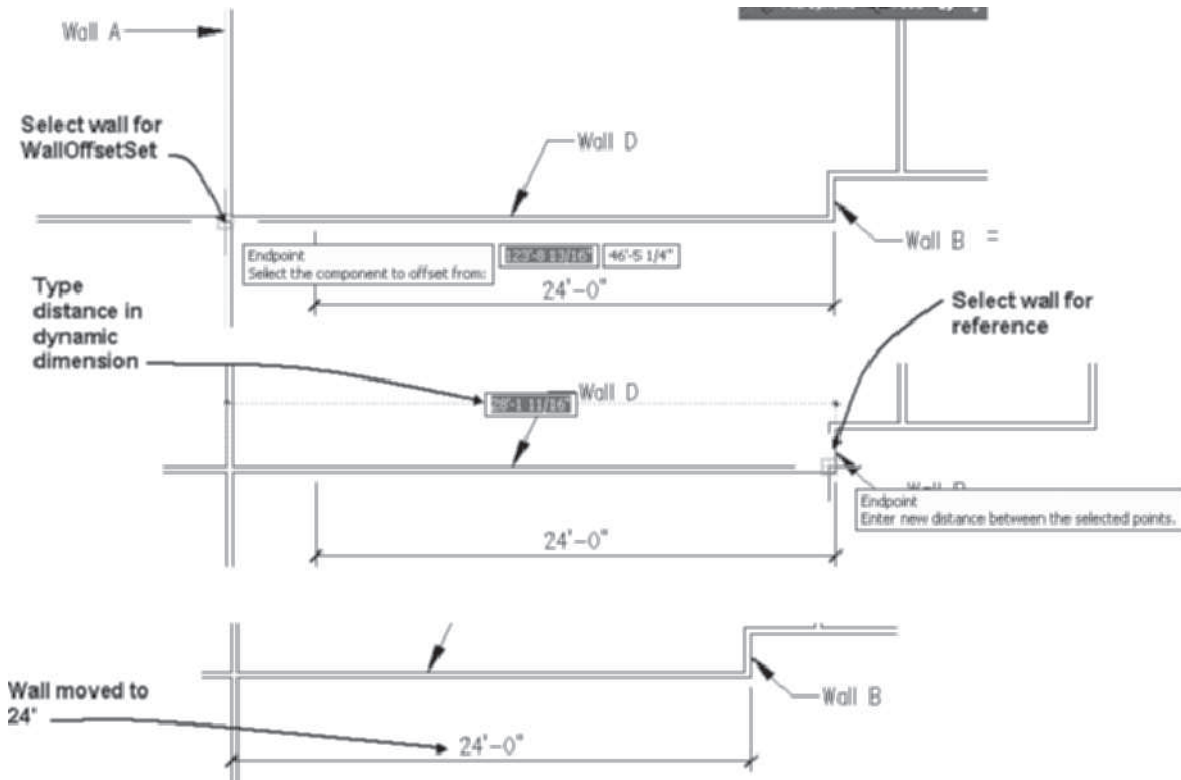

FIGURE 2.46 Offset component selected for Offset Set From command
9. Select **Wall A** shown in Figure 2.46 to display the Wall tab. Choose **Set From** from the **Offset** flyout of the **Modify** panel. Respond to the following workspace prompts to move it **24'** [7315] from Wall B.
Select the component to offset from: (Move the cursor to the left face of Wall A and click to select as shown in Figure 2.46.)
Select a point or wall component: (Move the cursor to the right wall face of wall B to display the **Endpoint** object snap; click to select the right face as shown in Figure 2.46.)
Type distance in the dynamic dimension on screen and press ENTER. The wall moves 24' [7315] from Wall B as shown in (Figure 2.46. Press ESC to clear selection.)